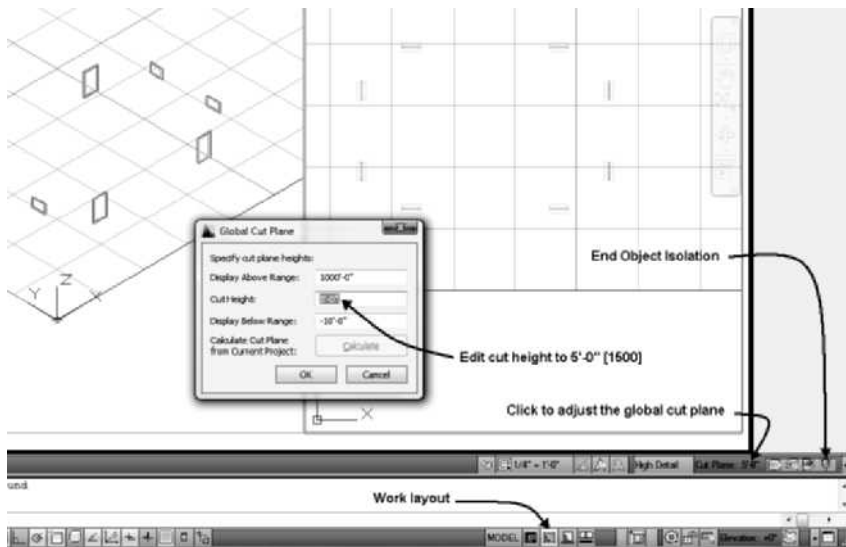

FIGURE 1.57 Global Cut Plane modified for display configuration
8. Select the **Work** layout from the **Application** status bar as shown in Figure 1.57, and click on the right viewport. Choose 1/4" = 1'-0" [1:50] from the Viewport Scale flyout of the Drawing Window status bar.
11. There are eight windows shown in the left viewport; however, only four windows are shown in the plan view of the right viewport. If you adjust the cutting plane height of display configuration, the missing windows of the right viewport will display. Click on the right viewport and choose **Cut Plane** in the Drawing Window status bar to open the **Global Cut Plane** dialog box shown in Figure 1.57. Type **5' [1500]** in the Cut Height field. Click OK to dismiss the Global Cut Plane dialog box.